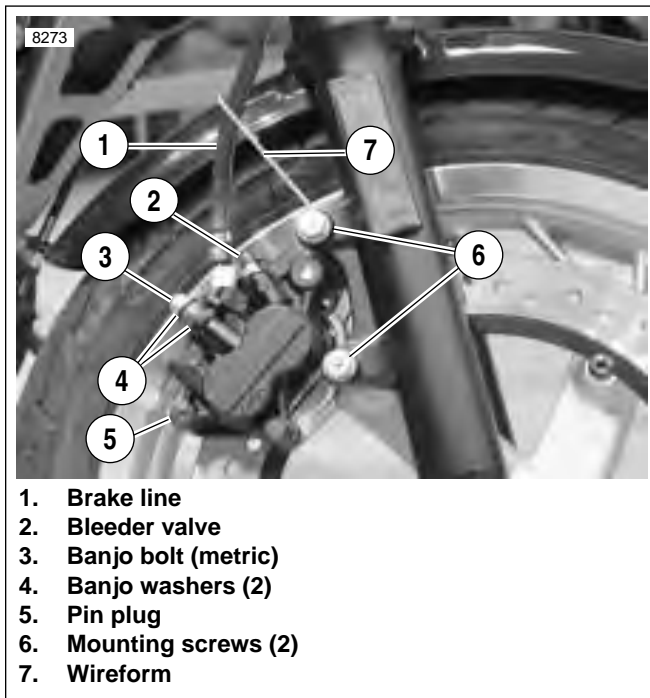

Figure 2-42. Front Brake Caliper
2. See Figure 2-42. Apply LOCTITE 272 (red) to both caliper mounting screws (6). Install wireform to upper screw and tighten both screws to 18-22 ft-lbs (24-30 Nm).
- e. See Figure 2-42. Install pin plug (5). Tighten to 18-25 in-lbs (2-3 Nm).
4. See Figure 2-42. Connect brake line (1) to caliper using two **new** banjo washers (4) and banjo bolt (3) (metric). Tighten to 16-20 ft-lbs (22-27 Nm).